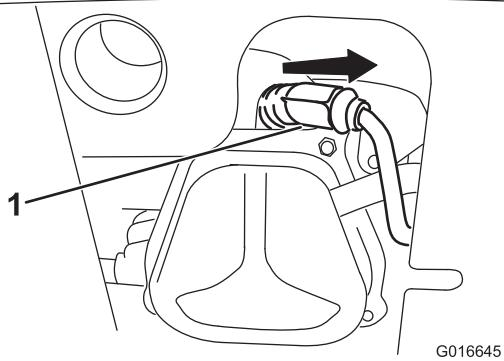

Figure 46
- ## 1. Remove the boot (Figure 46).